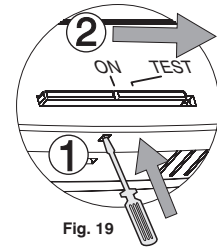

Fig. 19
- Move the "ON - TEST" selector to **TEST** (fig. 19).
- Move the "ON - TEST" selector to **TEST** (see fig. 19).